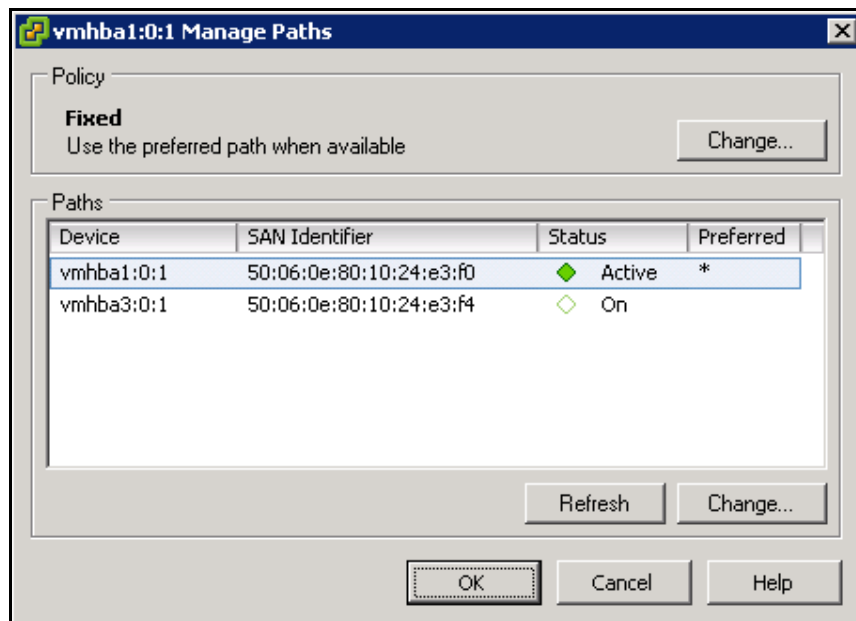

Figure 4-13: Example of Manage Paths Dialog Box
5. In the LUN Properties dialog box, click **Manage Paths**. A Manage Paths dialog box similar to the one in Figure 4-13 on page 4-14 appears. This dialog box shows the paths defined for the selected LUN. In the example, below, one path is active while the other path is on.